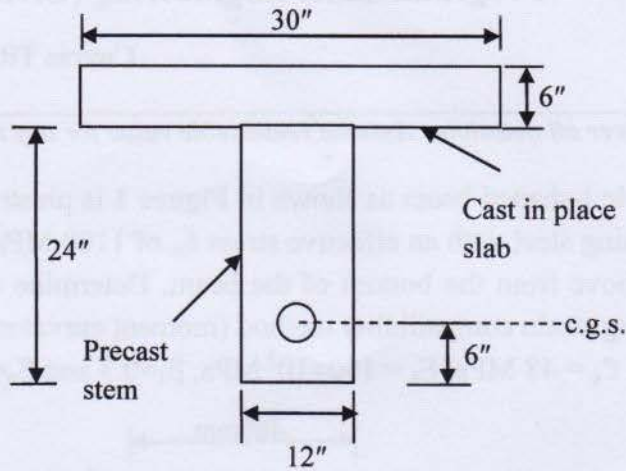

Figure: 2
- (b) Briefly explain about the sources of losses of prestress in prestressed concrete member. (5)
2. (a) A section of simply supported composite beam is shown in **Figure 2**. The precast stem is (20) prestressed with an effective force of 400 kips assuming a total loss as 15%. Compute the stresses in the section at different stages of loading and also draw the stress distribution at these stages if the bending moment at the section are as follows:
b. Determine the design moment capacity of **W18×106** section used as a flexure member of a grade 50 steel and calculate the load **P** for the beam shown in **Fig:2**. The beam has no lateral bracing. Use **AISC-LRFD** approach. [15]